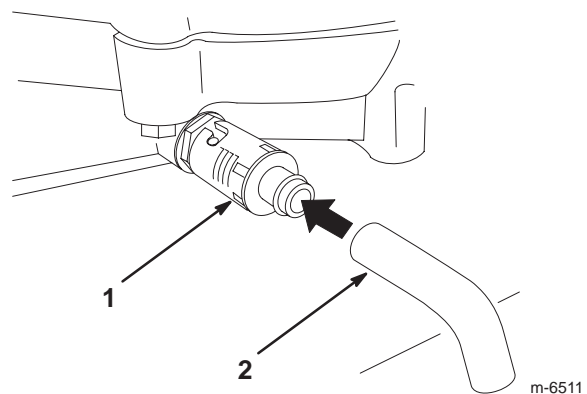

Figure 31
5. Place a pan below the drain hose. Rotate the drain valve to allow the oil to drain (Fig. 31).
6. When the oil has drained completely, close the oil drain valve and remove the drain hose (Fig. 31).